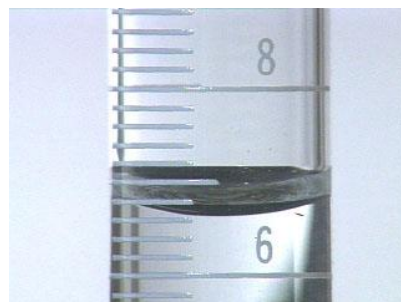

Figure 6 – a 10 mL graduated cylinder
1. What is the smallest scale increment for the 10 mL graduated cylinder shown in figure 6?
2. What is the volume of the liquid in the graduated cylinder in figure 6?